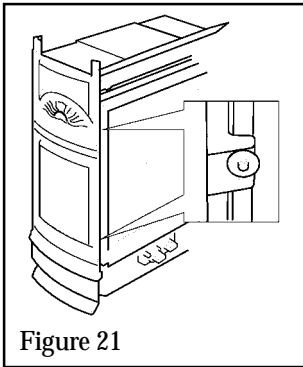

Figure 21
2. Fit the sides to the engine unit case with two machine screws and washers per side. See figure 21.